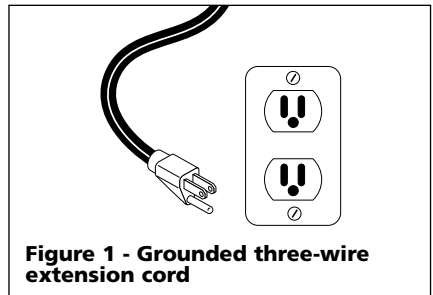

Figure 1 - Grounded three-wire extension cord
- This product requires a grounded 120V, 15 amp circuit and requires the use of a grounded three-wire extension cord in good condition (see Figure 1). (Note: See chart below for proper extension cord lengths.) If the power receptacles available will not fit this type of cord, then have an appropriate power receptacle installed by a certified electrician.